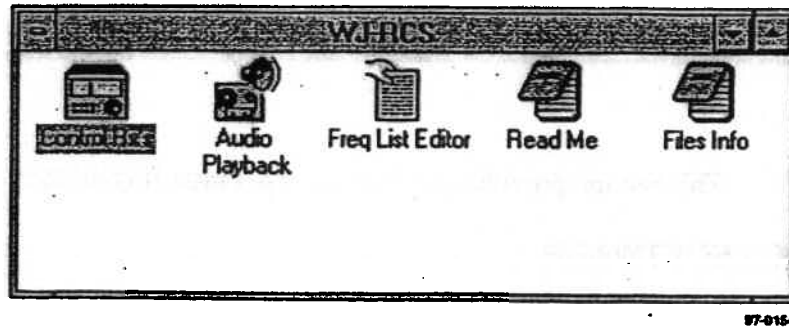

Figure 2-1. Program Group Window for WJ-RCS
8. At the completion of the RCS software installation procedure, a WJ-RCS program group appears on the Program Manager Window. If the software loaded properly, the WJ-RCS program group should look like Figure 2-1.
4. Computer is running and the window shown in Figure 2-1 is present on the computer screen.